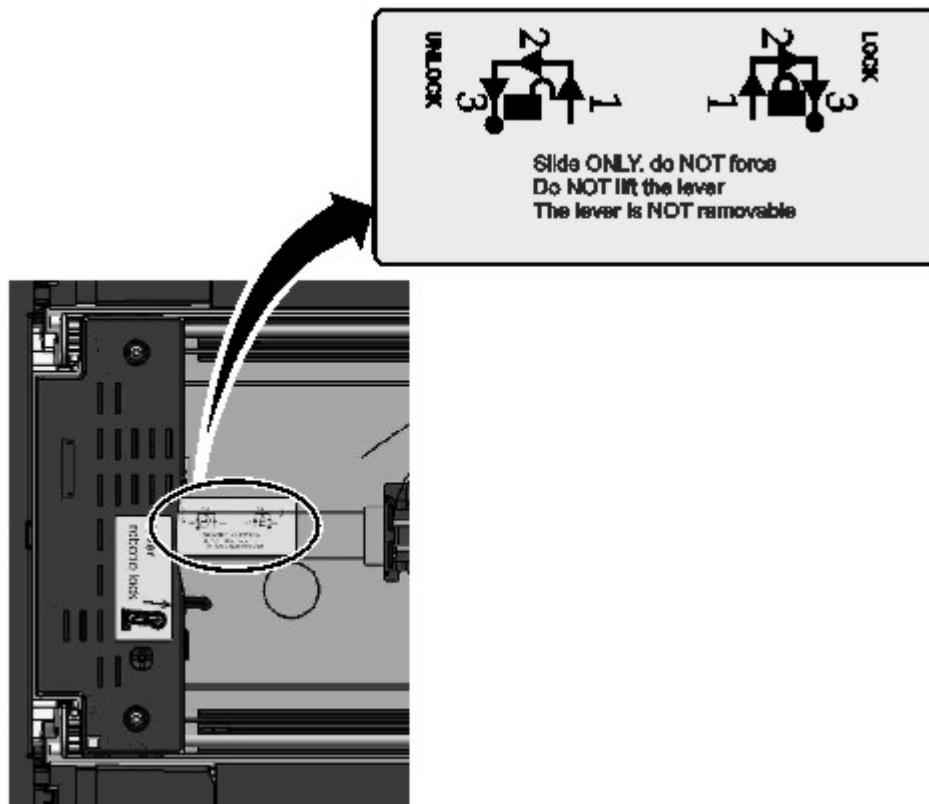

Figure 71. Unlocking the robot
10. Unlock the lever and set aside the accessor. See Figure 71 on page 133.